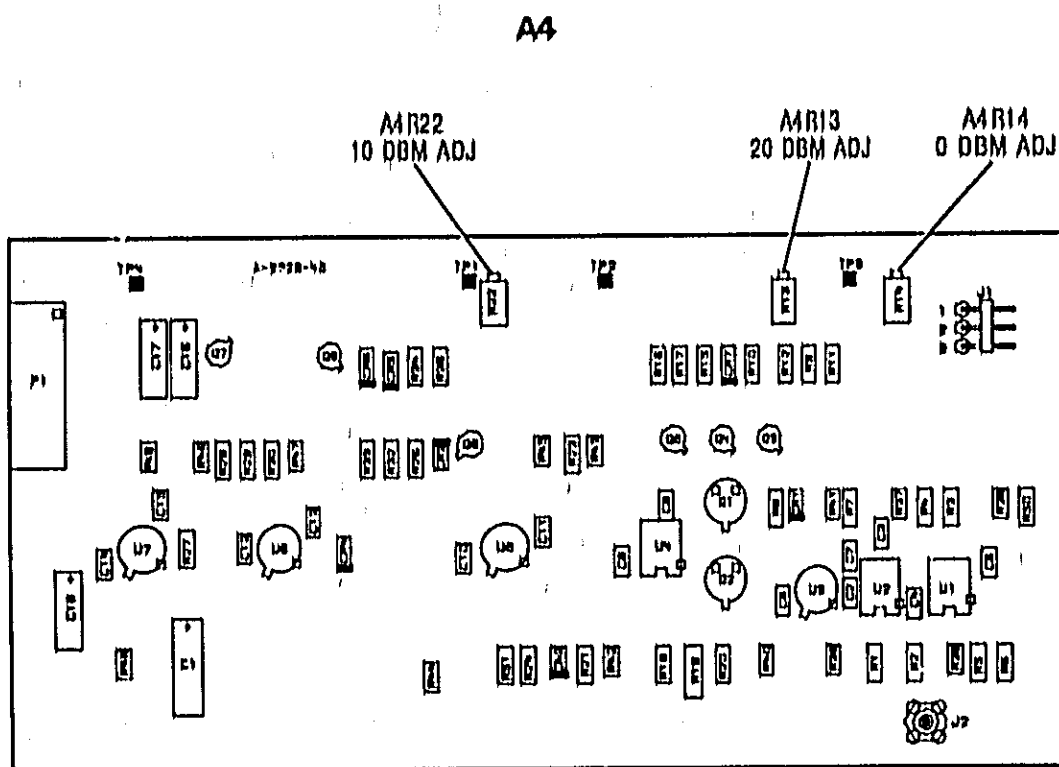

Figure 5-5. Signal Conditioning Assembly Adjustment Locations
10. On the HP 8349A signal conditioning assembly, adjust A4R14 (0 DBM ADJ) until the HP 8349A display reads 00.0 dBm. Refer to Figure 5-5 for the location of A4R14.